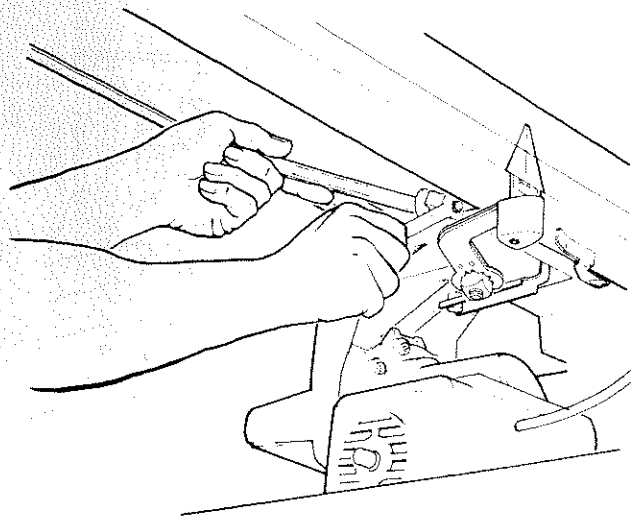

Fig. 127- Location of Hex Nut
2. To adjust the bearing, use a 9/16 inch wrench to hold the bolt head while using a 1/2 inch wrench to loosen the hex nut. (Figure 127)